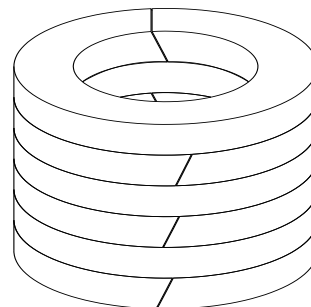

Figure 5 Packing cut position
3. Packing cut position should follow Figure 5. Use the same above method to install rest of the packing, one ring at a time, make sure the packing ring is totally in place before starting next one. During the installation process, keep all packing rings clean without touching any foreign material.